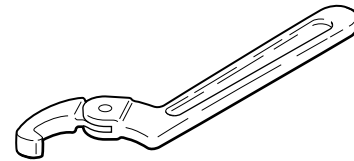

Figure 29. Claw Type Spanner Wrench..
2. Use a claw type spanner wrench to remove the retainer. See Figure 29.